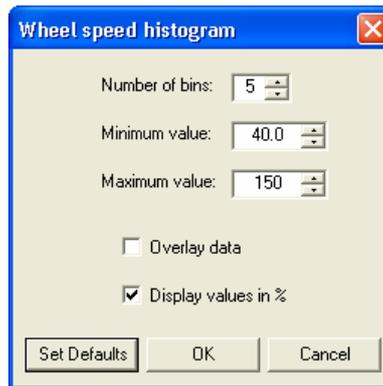

Figure 22 - Edit Histogram Properties Dialog
1. Activate the context menu attached to the histogram for which the properties are to be set and select the **Properties** option. The Edit Histogram Properties dialog appears (Figure 22).